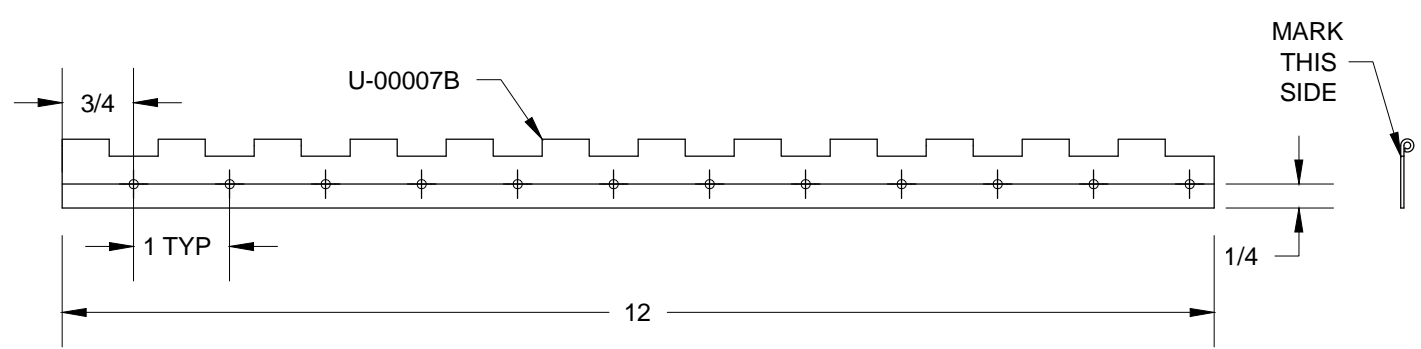

FIGURE 1: CUTTING HINGE HALVES
Step 1: Make the U-00007B Nose Leg Hinge from Hinge, Piano .063. Draw a rivet centerline the full length of the outside of both halves of the nose leg hinge using the dimensions shown in Figure 1. Mark the rivet locations as shown in Figure 1.